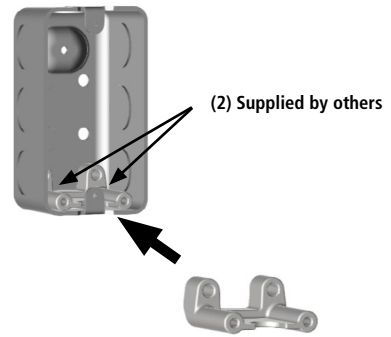

FIGURE 3
See Figure 3.
- If "HD" option has been ordered, secure (2) 8-32 hex head fasteners to optional "HD" adaptor. See **Figure 3**.